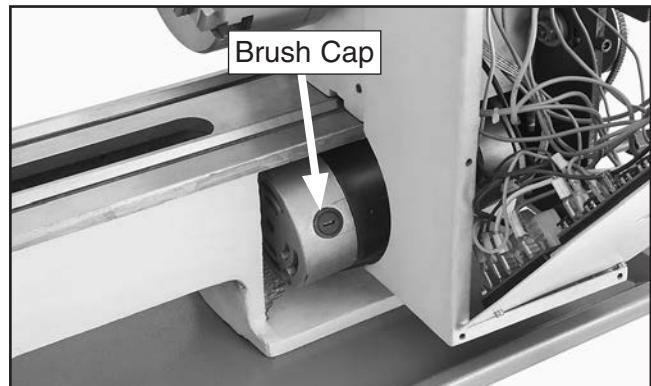

Figure 152. Location of top motor brush cap
5. Rotate motor to access top motor brush shown in **Figure 152**.